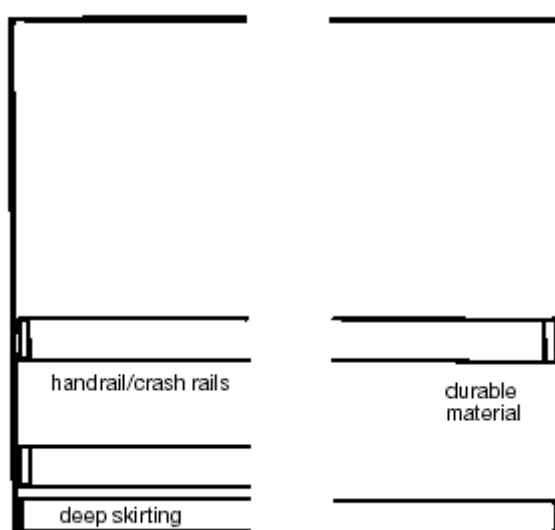

Figure 3 Heavy duty
- 3.6 Mid-height handrail or crash rail and either durable material on lower part of walls, or lower height crash rail, and with splayed skirtings in main corridors (see Figure 3).